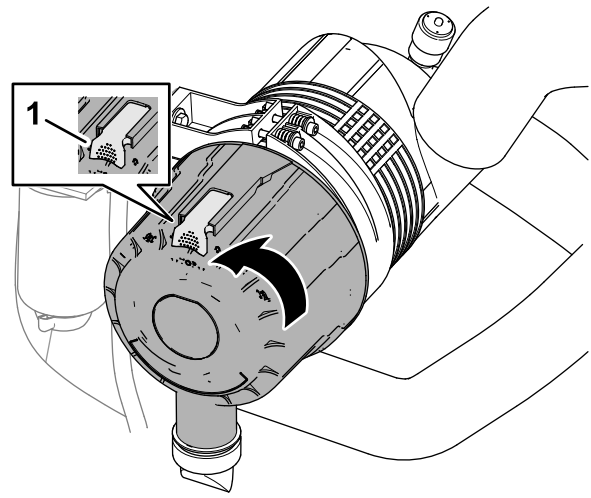

Figure 74
4. Pull the latch outward and rotate the air-cleaner cover counterclockwise (Figure 74).